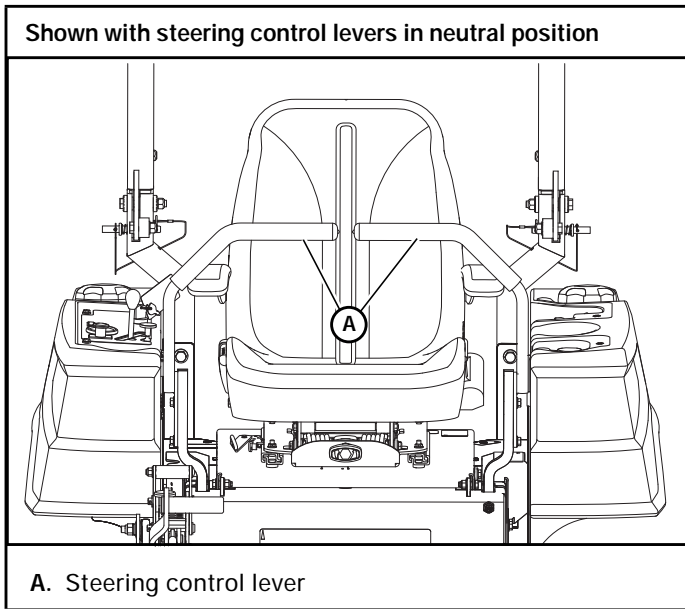

Figure 6-6
2. Place the steering control lever in the neutral position. Figure 6-6